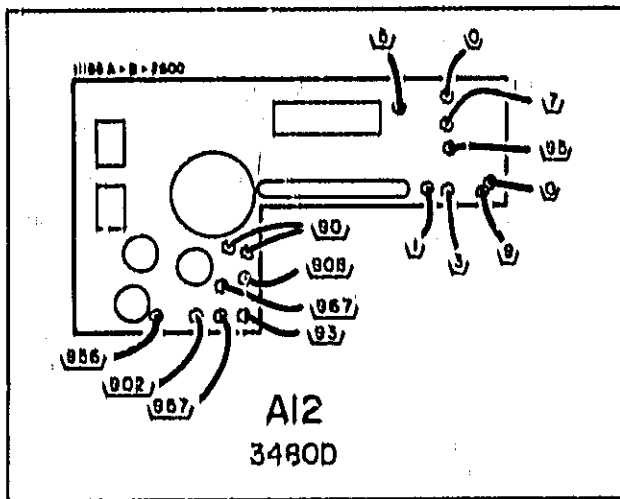

Figure 2-5. Sample/Hold Board Connections, 3480D.
i. Connect wires located in step g to pins on A12 assembly as indicated in Figure 2-5.